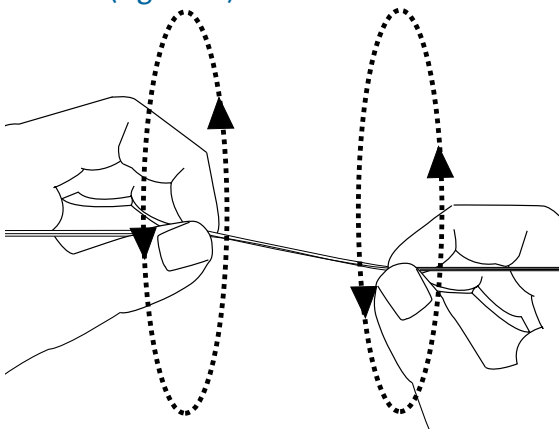

Figure 23
Step 6: Grasping the 2-fiber ribbon with your thumb and forefinger of each hands about 7.5 cm (3 in) apart, gently rotate the ribbon while simulating the motion of bicycle pedals with your hands. Repeat this motion until the fibers begin to fall out of the matrix material (Figure 23).